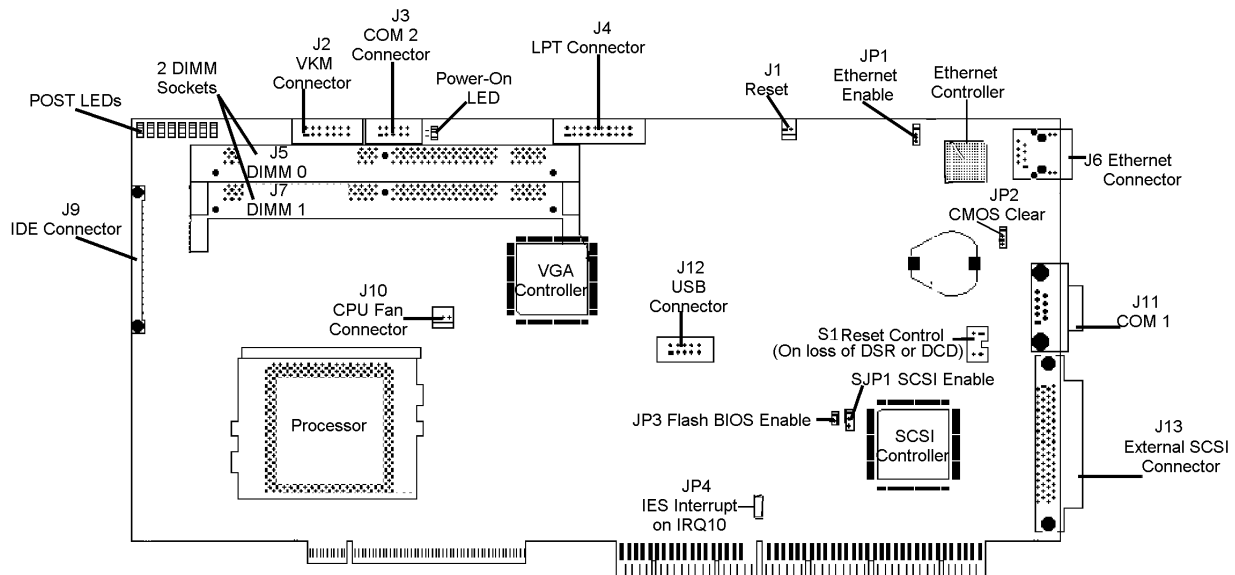

Figure 2 Celeron Series Board w/single Ethernet Layout
The Celeron Series Board uses the Intel 440BX chipset and an Intel Celeron processor with speeds up to 500Mhz. There are two DIMM sockets for a maximum of 512MB of memory. This processor board uses a 66Mhz front side bus and a 33Mhz-PCI bus timing. The board is designed for the Density Series chassis which will hold up to eight of the Celeron Series Boards. Figure 2 shows the board layout for this Celeron Series Board.
This board is equipped with an Intel® 82559 PCI fast Ethernet controller with one corresponding RJ-45 10/100 BASE TX connector on the mounting bracket at the rear of the board. The I/O addresses and interrupts are set by the PCI plug and play BIOS at boot time. The controller is enabled or disabled via jumper JP1 (see Figure 2 for jumper location).
The CMOS memory can be cleared by using JP2 (see Figure 2 for JP2 location). This memory controls the maintenance and storage of three sets of information: (1) the date and time generated and displayed on the computer screen; (2) the peripheral setup, i.e. programming base register for the chip sets; and (3) the password necessary for entry.
If the Flash Bios is to be upgraded, a shunt must be installed on the 2-pin jumper JP3 (see figure 2 for JP3 location). Upgrades typically come on a floppy disc and are accompanied by upgrade instructions.* When the upgrade is complete, the shunt should be removed to protect the system from accidental erasure.
As stated above, the on-board Symbios Wide Ultra2 SCSI controller can be enabled or disabled with SJP1 (see Figure 2 for SJP1 location).
Additional memory can be installed on the Celeron Series Board. There are two DIMM slots available on this board, DIMM0 (J5) and DIMM1 (J7) (see Figure 2 for DIMM slot locations). If only one DIMM is installed, this DIMM should be installed in DIMM 0 (J5). The sequence of DIMM installation relative to DIMM size is not important. DIMMs must be PC-100 compliant.